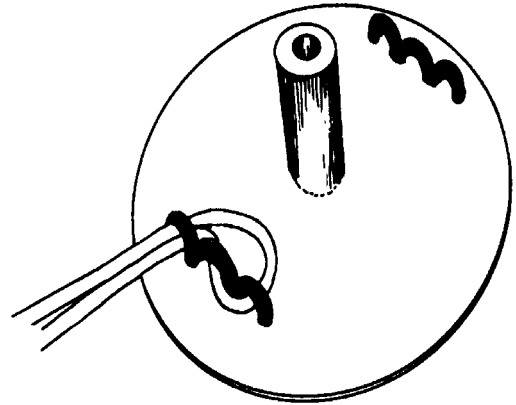

Figure 24
- You can also try the method illustrated in Figure 24, especially for the green, 155 mil cord. This not only holds the cord tight, but also helps the cords cut better in larger diameter, tough and woody growth.